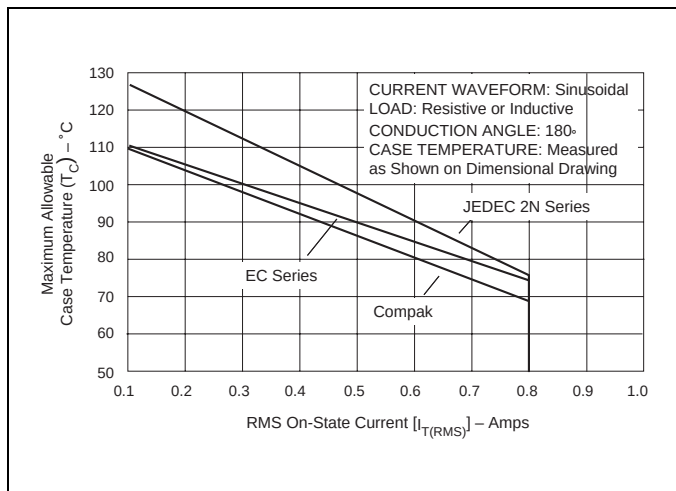
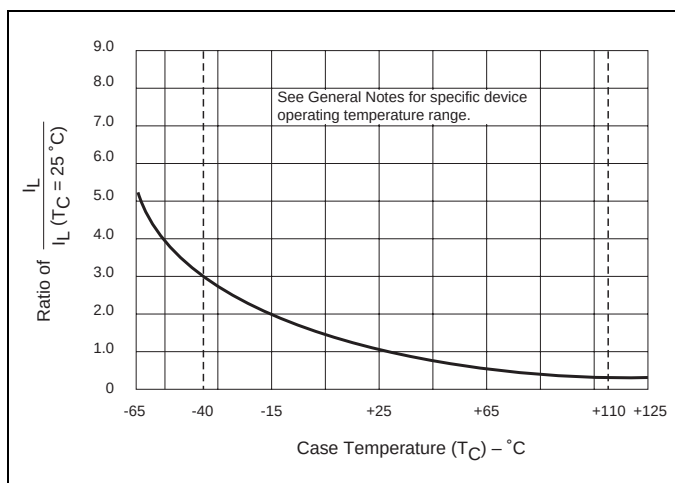

Figure E5.1 Maximum Allowable Case Temperature versus RMS On-state Current
Figure E5.18 Normalized DC Latching Current versus Case Temperature
- (1) See Figure E5.1 through Figure E5.9 for current ratings at specified operating temperatures.
- (13) See Figure E5.1 through Figure E5.9 for maximum allowable case temperature at maximum rated current.
- (14) $I_{GT} = 500 \mu\text{A}$ maximum at $T_C = -40^\circ\text{C}$ for T106 devices
- (15) $I_H = 10$ mA maximum at $T_C = -65^\circ\text{C}$ for 2N5064 Series and 2N6565 Series devices
- (16) $I_H = 6$ mA maximum at $T_C = -40^\circ\text{C}$ for T106 devices
- (17) Pulse Width $\leq 10 \mu$ s
- (18) $I_{GT} = 350 \mu\text{A}$ maximum at $T_C = -65^\circ\text{C}$ for 2N5064 Series and 2N6565 Series devices
- (19) Latching current can be higher than 20 mA for higher I_{GT} types. Also, latching current can be much higher at -40°C . See Figure E5.18.
- (20) T_C or $T_L = T_J$ for test conditions in off state
- (21) I_{DRM} and $I_{RRM} = 50 \mu\text{A}$ for 2N5064 and 100 μA for 2N6565 at 125 °C
- (22) TO-92 devices specified at -65°C instead of -40°C
- (23) $T_C = 110^\circ\text{C}$